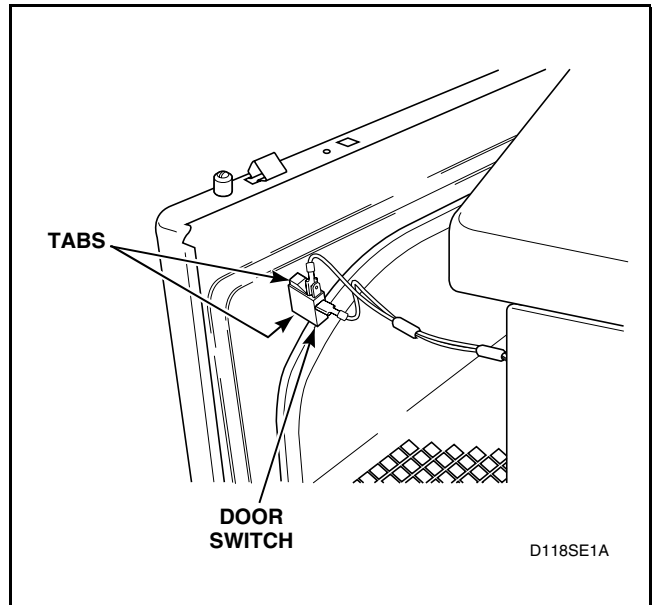

Figure 12
- g. Disconnect wires from door switch. Refer to *Figure 12*.